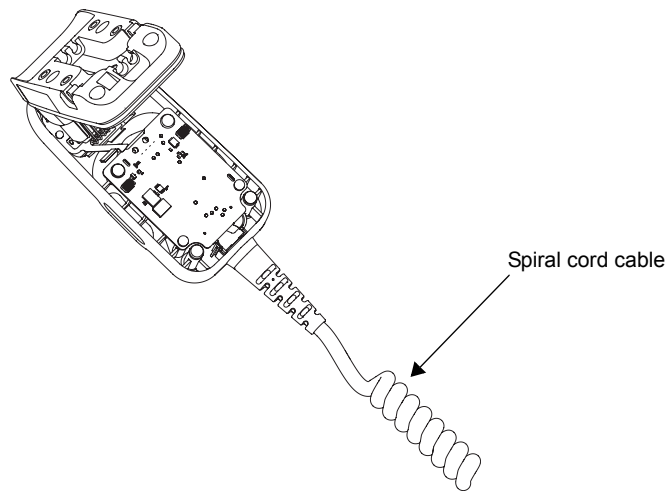

Figure 6-25 Cradle Back Housing Assembly Removal
3. Disassemble the Cradle back housing assembly from front housing assembly as shown in Figure 6-25, on page 6-25.